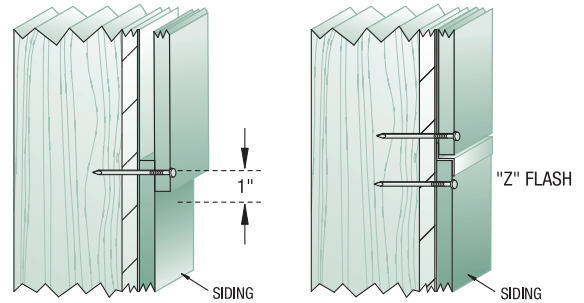

FIG. 4
- Although not recommended, where 24" o.c. vertical framing is used, wood-based sheathing is required. Follow product-specific nailing pattern (see Fig 4). Nail to framing 24" o.c. with intermediate nailing 12" o.c. to sheathing with a 6d galvanized ring shank nail or equivalent. This effectively creates a 12" o.c. nailing schedule.
- At horizontal joints with stacked panels or other types of siding, overlap siding 1" or use Z flashing and fasten as shown. See Fig 4.